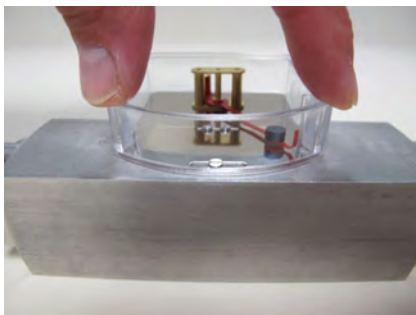

Fig. 69
16. ▶ Place the plastic housing onto the display base plate and press down until it snaps into place (Fig. 69).